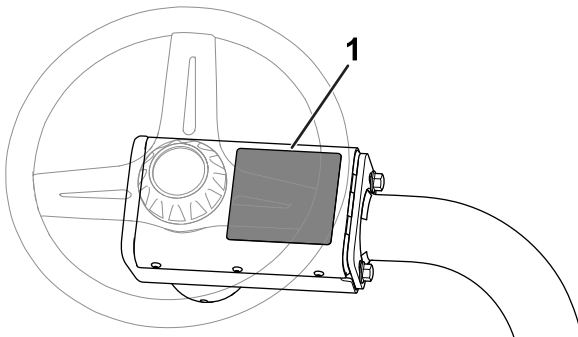

Figure 17
- **CE warning decal:** Apply the CE warning decal (Part Number 139-8321) over the existing warning decal (Part Number 139-8320) on the steering-wheel cover; refer to Figure 17.